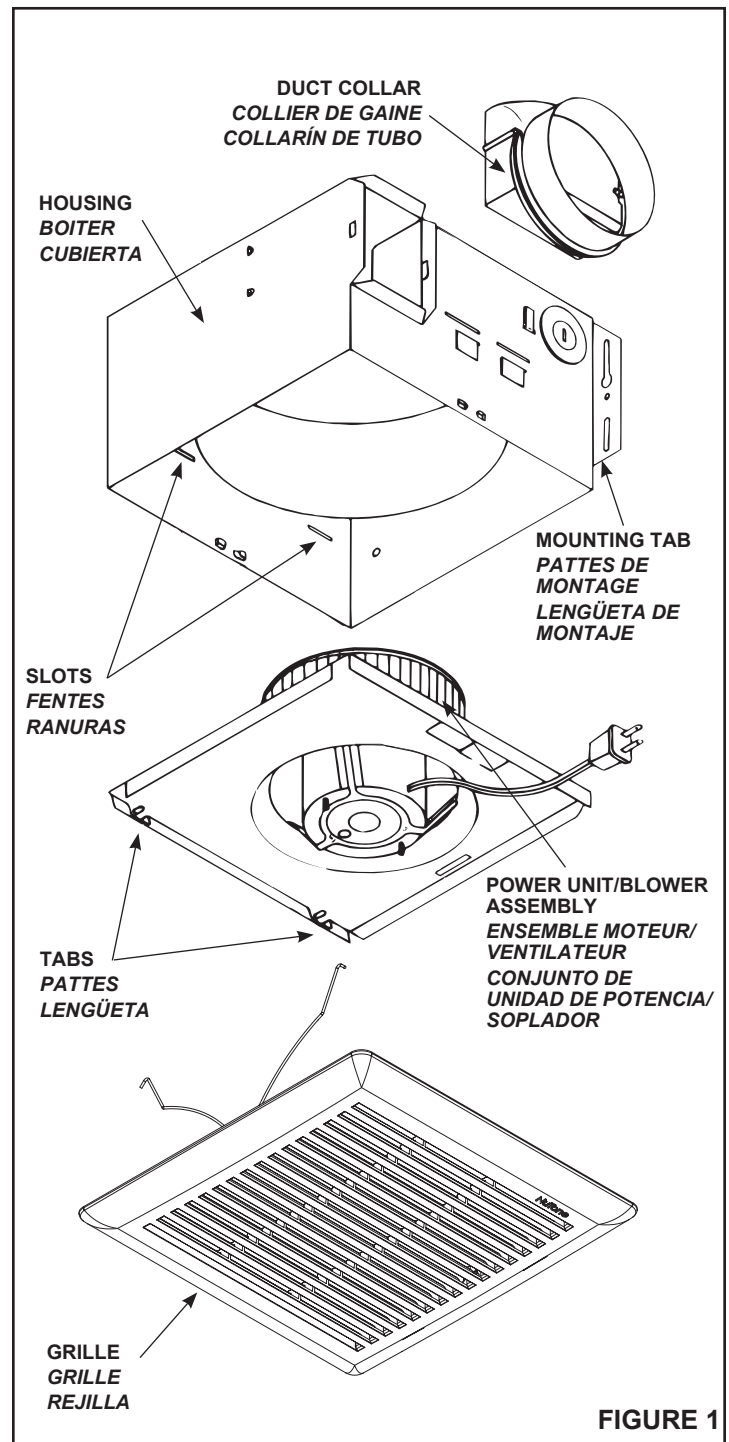

FIGURE 1
1. **Refer to Figure 1.** Remove blower/power unit assembly from the housing.